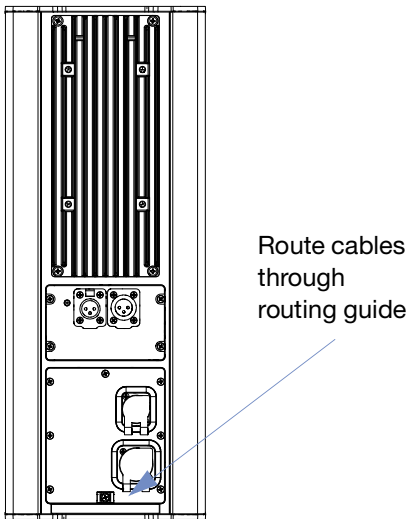
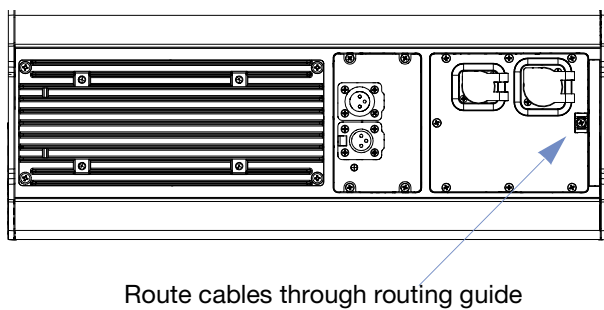

Figure 50: Only Permissible Vertical Orientation
Figure 51: Only Permissible Horizontal Orientation
**CAUTION:** When mounting the loudspeaker, ensure that the cables will exit from the bottom of the loudspeaker (vertical orientation) or right side of the loudspeaker (horizontal orientation). There is only one permissible vertical orientation (Figure 50) and one permissible horizontal (Figure 51).